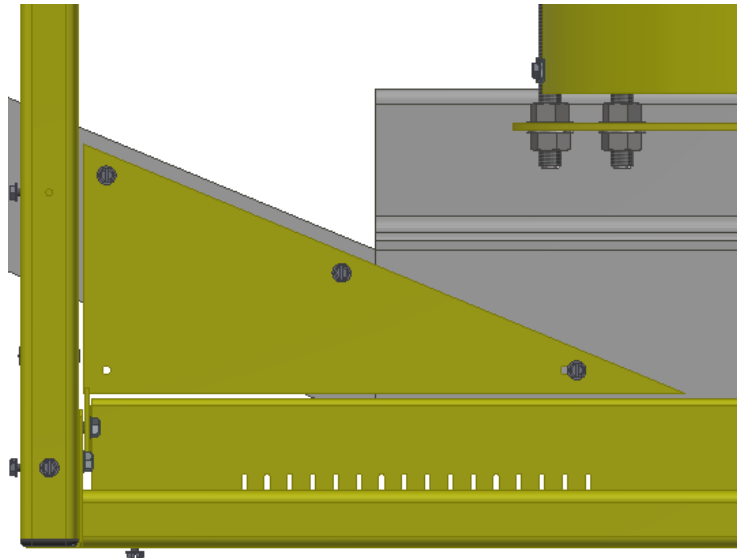

Figure 22: Machine Guard Motor Filler Panel Angled Base Corner Configuration
- For an angled base configuration the corner piece cut from the Machine Guard Motor Filler Panel (p/n _ _-242) can be secured inside the frame by following the same methodology as above if needed as shown below (Figure 22).